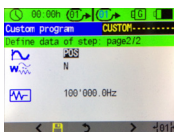

Fig. 17e
3. **DEFINE DATA OF STEP - PAGE 2/2** (Fig. 17e): By completing the second page of a step you will be able to save the step with . **NOTE: for each Step you will have to fill in 2 pages of parameters (also see: Define Data of Step - Page1/2).**
Once you have programmed the first step by completing the second page of the parameters of a step you can save the step by choosing  (Fig. 17e) and confirming or move to programming the next step with .